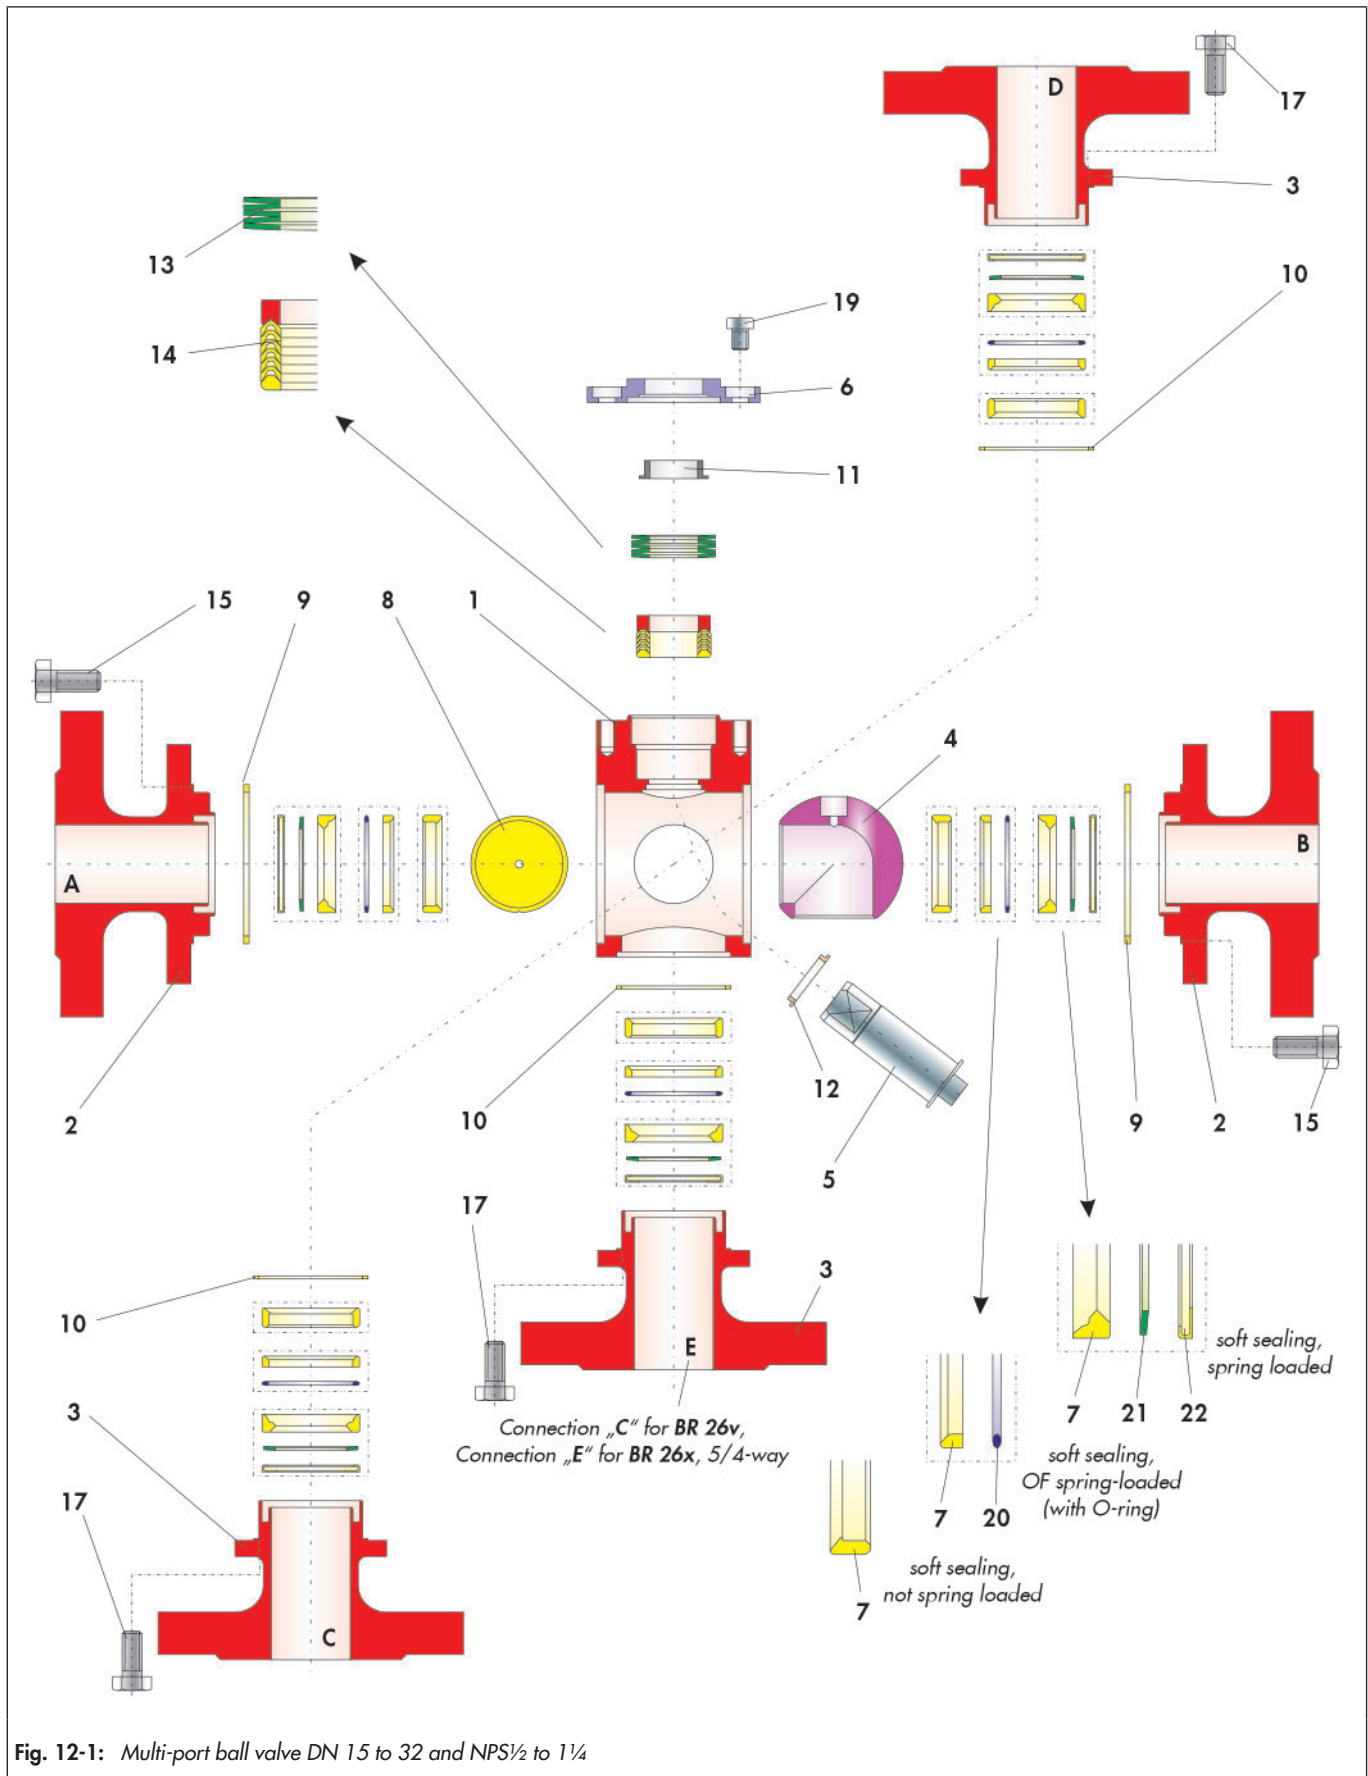

Fig. 12-1: Multi-port ball valve DN 15 to 32 and NPS½ to 1¼
- ⇒ Version of the ball valve, see Fig. 12-1.
- ⇒ Loosen the screws (15) and carefully remove both body flanges (2).